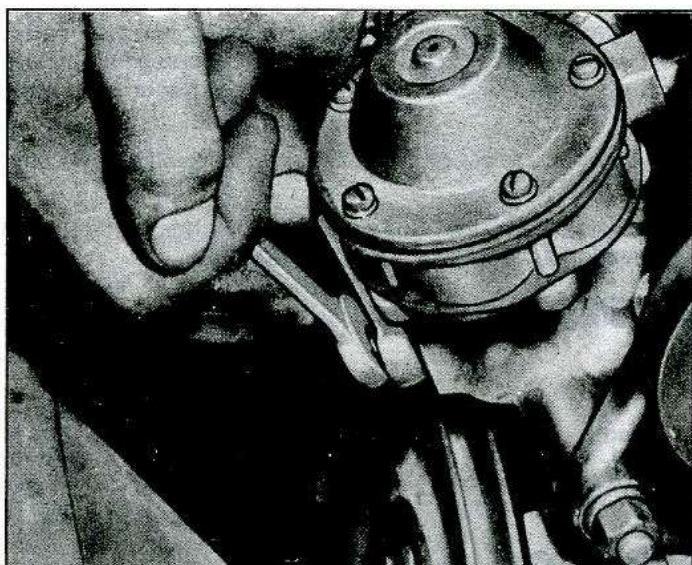

Fig. 59—Loosening Locknut
2. Loosen the jamb nut locking set screw in place and remove set screw (fig. 59).